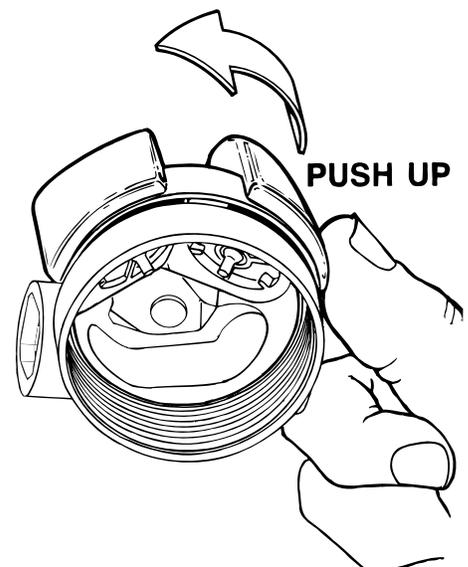

Fig. 7b - Exhaust Cover Removal - Step 2
30. Turn the box bottom vertical and press the disengaged side of the exhaust cover up from below, rotating it over the box bottom until the opposite side disengages (see Fig. 7b).